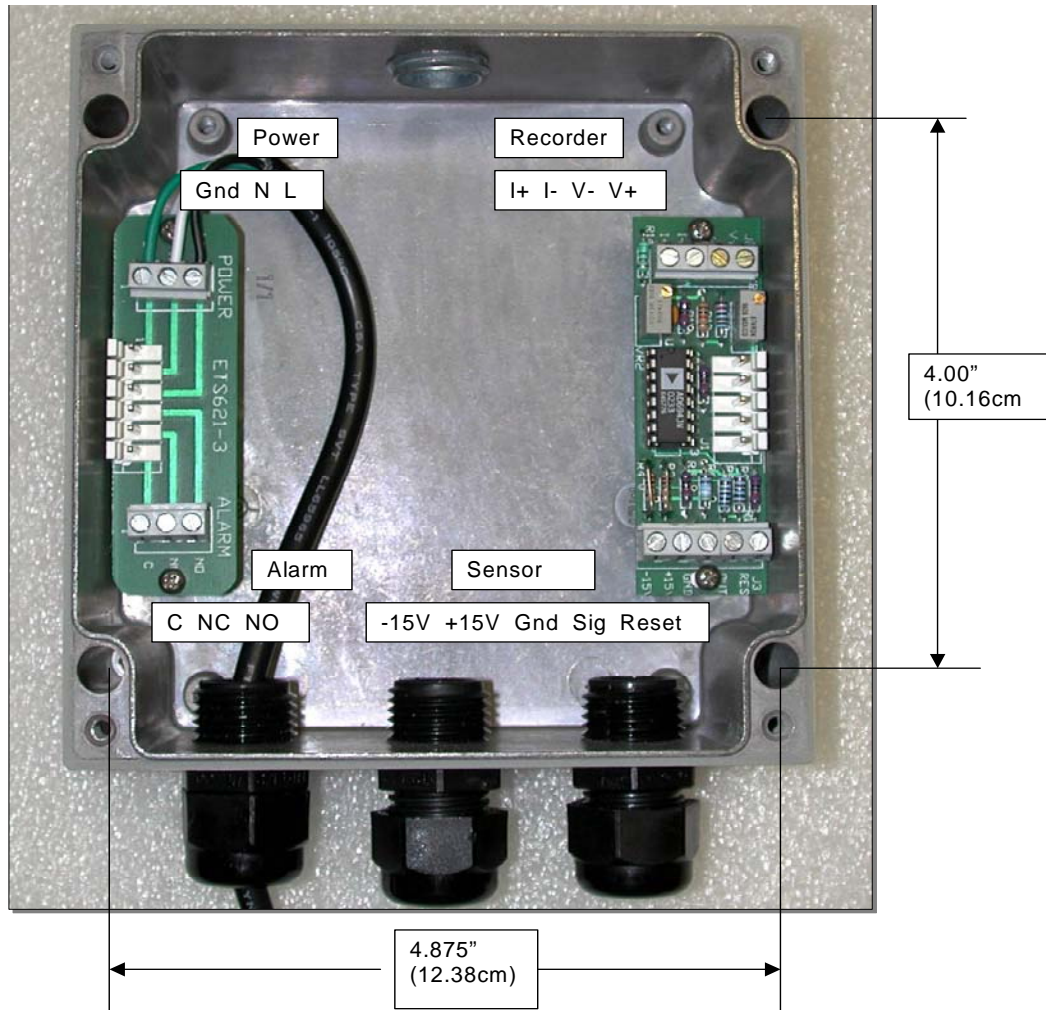

Figure 3.1-1: Power and signal connections
The control unit should be mounted on a flat surface that is at least 6 inches (150mm) square. Figure 3.1-1 also shows the mounting dimensions required to mount the basic control unit using four (4), #8 screws.
All power and signal connections are made to the terminal blocks as shown in Figure 3.1-1. Standard connections are through cable strain relief fittings, but the enclosure also allows for direct installation of  $\frac{1}{2}$ " (12mm) conduit.
To connect the Recorder Output and/or the Alarm output remove one or both of the hole plugs on the bottom of the control unit and install the necessary 1/2" NPT compression fittings. Connect the wires to the appropriate barrier strip as shown in Figure 3.1-1.